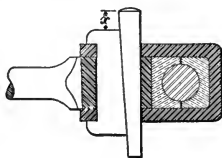

FIG. 39.
**EXAMPLE.**—In Fig. 39, the key has been driven home until the brasses nip the pin; it has been determined to run the brasses with a clearance of  $\frac{1}{8}$  inch; how much must the key be backed out, its taper being  $\frac{3}{4}$  inch per foot?